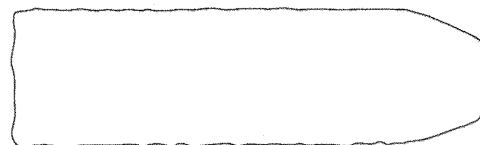

Fig. M8
5. If the envelope is as shown in Fig. M8, adjust the height of Guide Roller [3] (Refer to Fig.M3) so that the waveform looks like the one shown in Fig. M9.